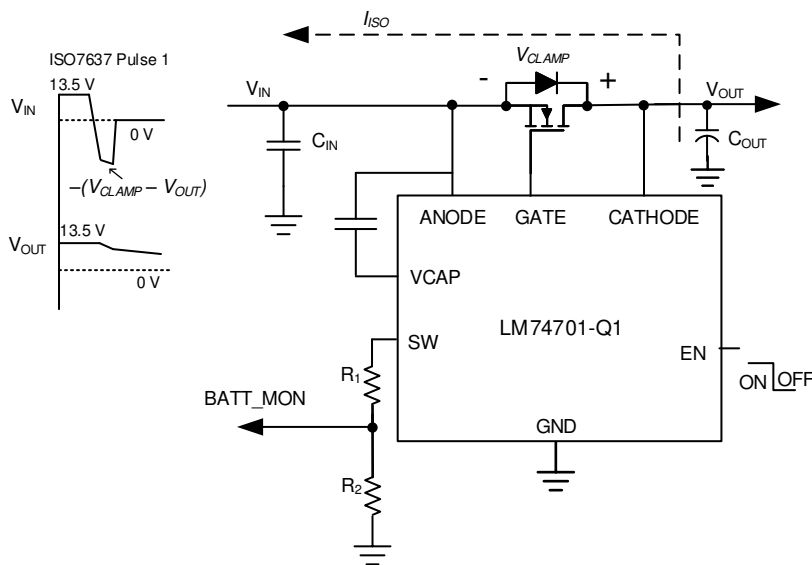

图 8-4. LM74701-Q1 Operation During VDS Clamp Mode
2. After the voltage across the drain and source of the MOSFET reaches V_{CLAMP} level (34-V minimum), GATE is turned ON back in the saturation region, operating external MOSFET as an active clamp and dissipates the ISO7637 pulse 1 energy. The typical circuit operation of LM74701-Q1 during ISO7637 pulse 1 is shown in 图 8-4.